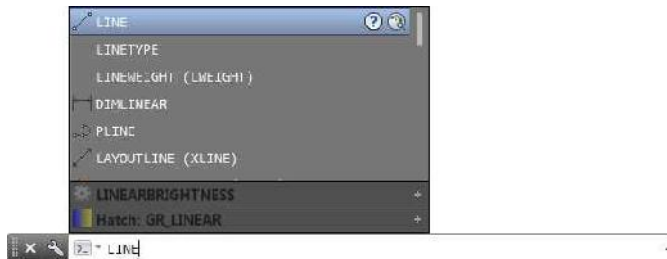

FIGURE 1.19: List of autocomplete options for the LINE command
1. Enter **LINE** at the command line and notice the list of possible commands the autocomplete feature displays, as shown in Figure 1.19. As you might expect, in addition to the LINE command, several other command names containing *line* are displayed.